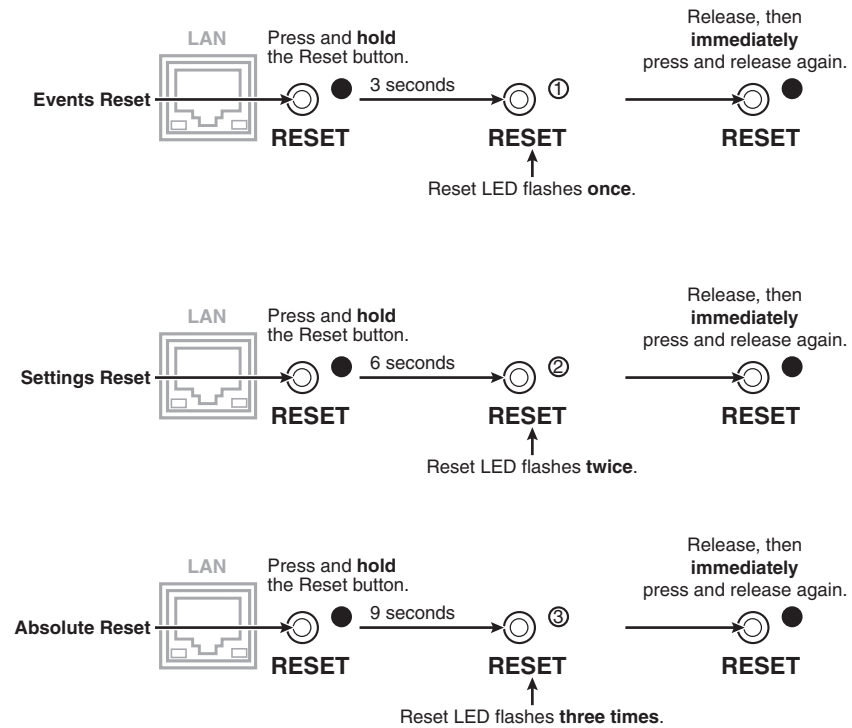

Figure 3-32 — Whole switcher and absolute resets
1. Use an Extron tweaker or other small screwdriver to press and hold the Reset button until the Reset LED blinks once (events reset), twice (system reset), or three times (absolute reset) (figure 3-32).